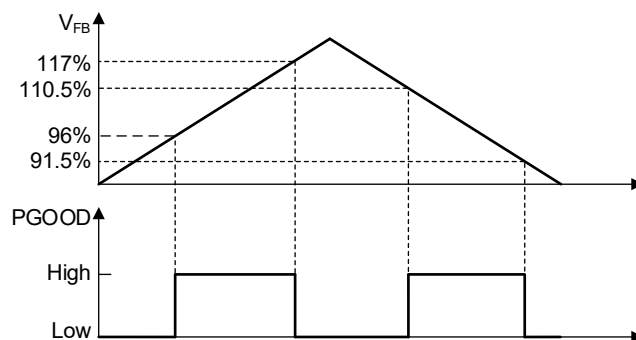

Figure 5. Power-Good Flag
The SGM64201 features a power-good (PG) pin that indicates whether the output voltage is at the desired level. This pin is an open-drain output that requires a resistor of 10kΩ pulled up to a DC voltage. Figure 5 illustrates that when the FB voltage is within the power-good range, the PG switch is turned off, and the PG pin is pulled up to high after 1ms internal delay. Conversely, when the FB voltage is outside the power-good range, the PG switch is turned on, and the PG pin is pulled down to low after 2μs internal delay. When EN is pulled low, the flag output will also be forced low.